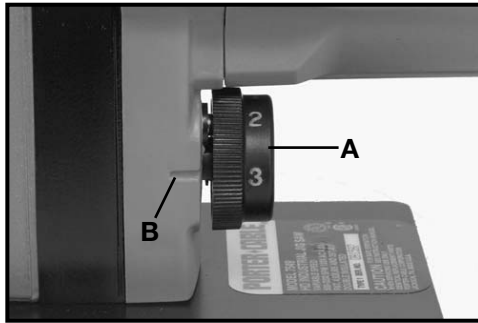

Fig. 7
The blade orbit may be varied by turning knob (A), Fig. 7, to any of four positions indicated by the numbers “0” through “3”, with “0” producing no orbit and “3” producing maximum orbit. The orbit may be adjusted with or without the motor running. Turn knob (A), Fig. 7, to align the number producing the desired orbit with the index mark (B), Fig. 7. Metal cutting should be performed in orbit setting “0”.